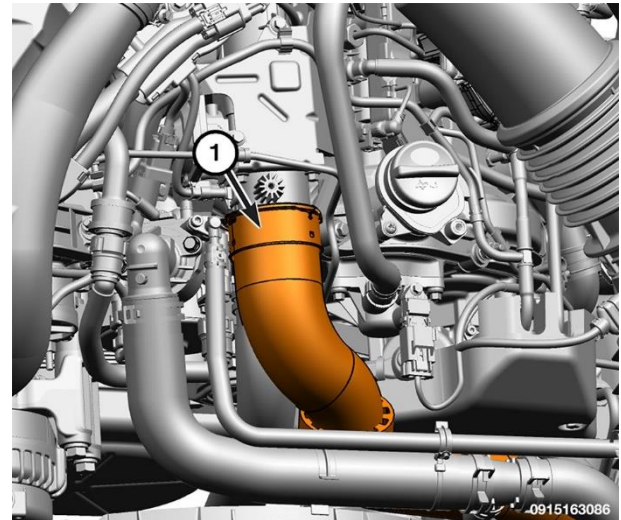

Figure 100 – CAC Hose from EGR Air Flow Control Valve
15. Release the retaining lock (1) and disconnect the Charge Air Cooler (CAC) hose from the EGR air flow control valve (Figure 100).